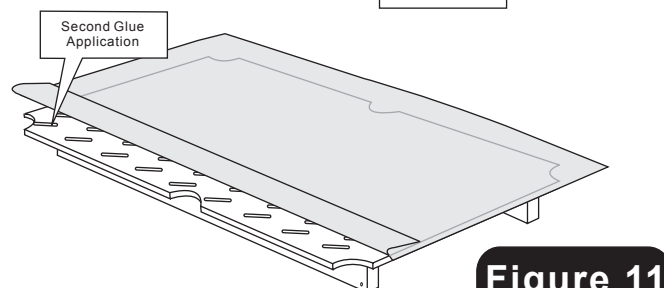

Figure 11
5. Fold cloth away from side to expose Play Bed for your second glue application. (See **FIGURE 11**). Apply cement to the side in the same manner as your first glue application. Allow cement to become tacky, wait at least one minute.